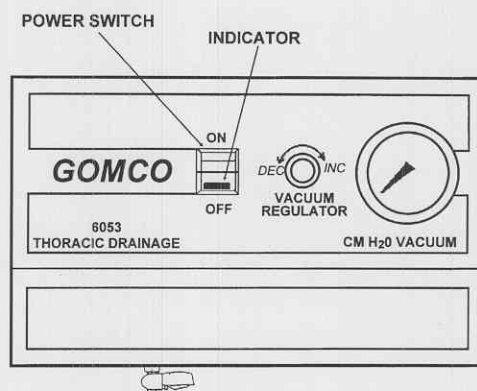

Figure 3-6. Power switch.
3-18. Power switch (fig 3-6).
- (1) Orient the replacement switch as illustrated in figure 3-6 and insert it into its mounting hole until its mounting tabs lock it into place.
- (2) Reconnect the electrical terminal connectors onto the switch in accordance with previously recorded electrical wire color positions.
- (3) Reinstall the stainless steel cover.
- (4) Reinstall the six Phillips screws into the sides of the stainless steel cover to refasten it.